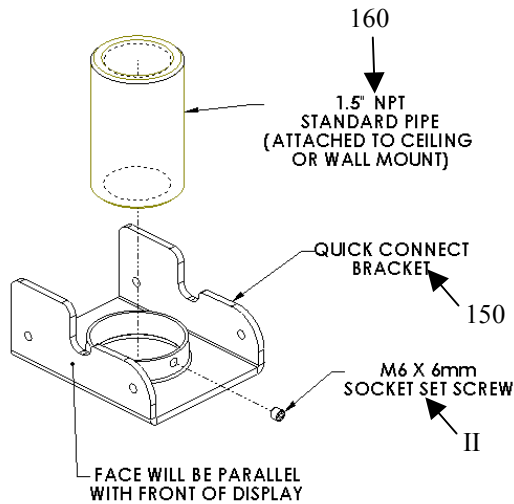

Figure 18. Assemble Quick-Connect Bracket
1. Locate the quick-connect bracket (150) and the 1.5" NPT standard pipe (160). See Figure 18.
2. Thread the 1.5" NPT standard pipe (160, or a longer pipe – not supplied) into the existing ceiling or wall mount. Tighten the set screw on existing mount to prevent pipe (160) from unthreading.
3. Thread quick-connect bracket (150) onto 1.5" NPT pipe previously installed (step 2). Make sure either face of the quick-connect bracket (150) faces the same direction you want your screen facing.
4. Install M6 X 6mm set screw (II) using the supplied M3 Allen wrench (JJ). See Figure 18.